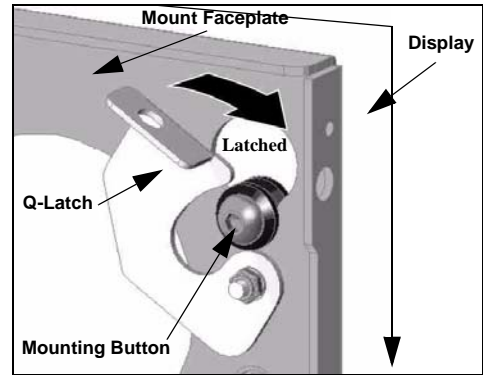

Figure 12: Close Q-Latch
3. Secure the display by placing the Q-Latch in the "latched" position. (see figure 12)